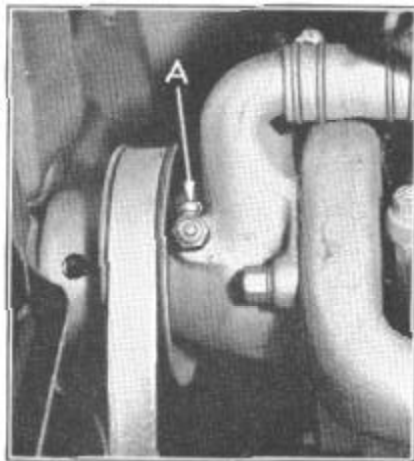

Figure 5
To prevent excessive gun pressures from damaging the self-adjusting oil seal, a metered lubrication fitting (A), Figure 5, is provided on the water pump.